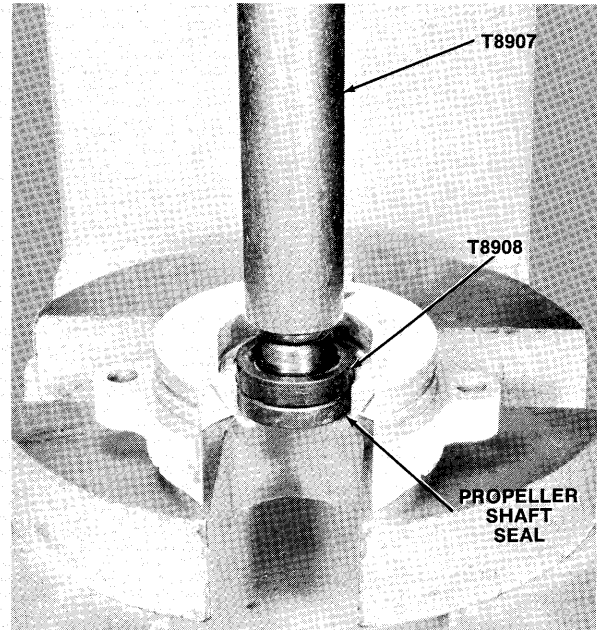

Figure 21—Pressing in Propeller Shaft Seal
- C. After installing bearing cup, install propeller shaft seal using seal installer (Special Tool T8908) and driver handle (Special Tool T8907) as shown in figure 21.